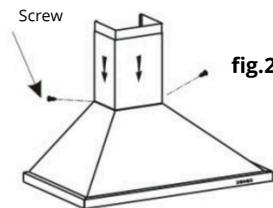

fig.2
3. Sliding the chimney to adjust the chimney height. When the height you required is reached, then fix 24x8mm screws into the "Plate I" holes as shown in fig.2 below